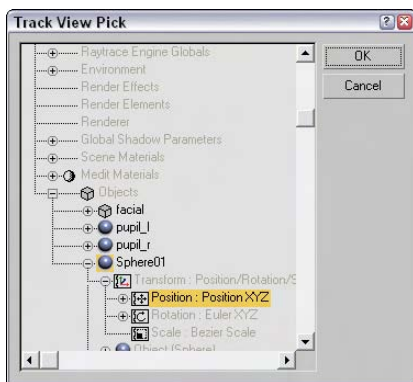

Figure 32-6: Select the Position track for the Sphere01 object in the Track View Pick dialog box.
4. With the ballPos variable selected, click the Assign to Controller button. In the Track View Pick dialog box, locate and select the Position track for the Sphere01 object, as shown in Figure 32-6, and click OK.